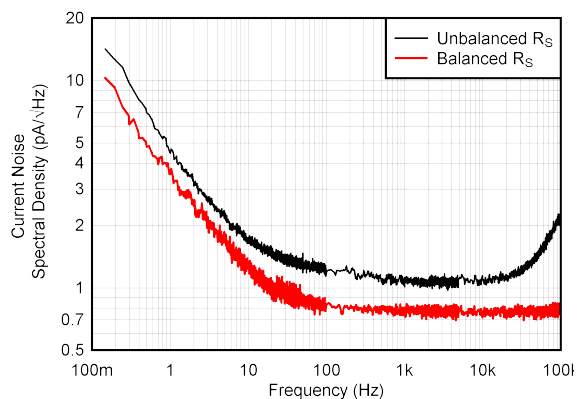

Figure 7-25. Current Noise Spectral Density vs Frequency (RTI)
- (7) This parameter is tested in a high speed automatic test environment and does not measure the thermal effects with a longer a time constant. The thermal effect depends on supply voltage, layout, heat sinking and air flow conditions.
- (8) Total RTI voltage noise is equal to: $e_{\text{N(RTI)}} = \sqrt{[e_{\text{NI}}]^2 + (e_{\text{NO}} / G)^2}$.
- (9) Input current noise density specified for unbalanced input impedance. Bias current cancellation improves noise performance for balanced systems; See Figure 7-25.